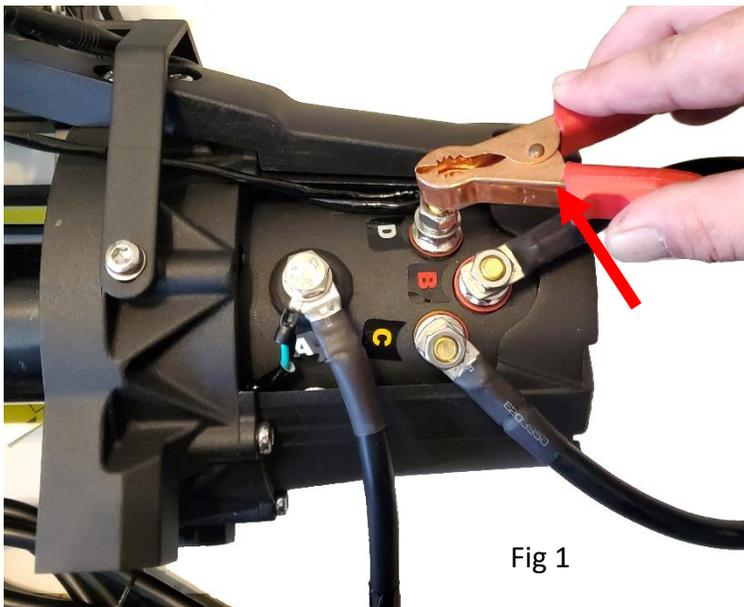

Fig 1
**Step 3:** Attach a large gauge jumper wire between the B ( red) and the C ( yellow) terminals. Using a jumper cable from the positive battery terminal to terminal B (black) on the motor tap the jumper onto the terminal. Take care that jumper cable does not contact motor housing Motor should power one direction. Fig 1.